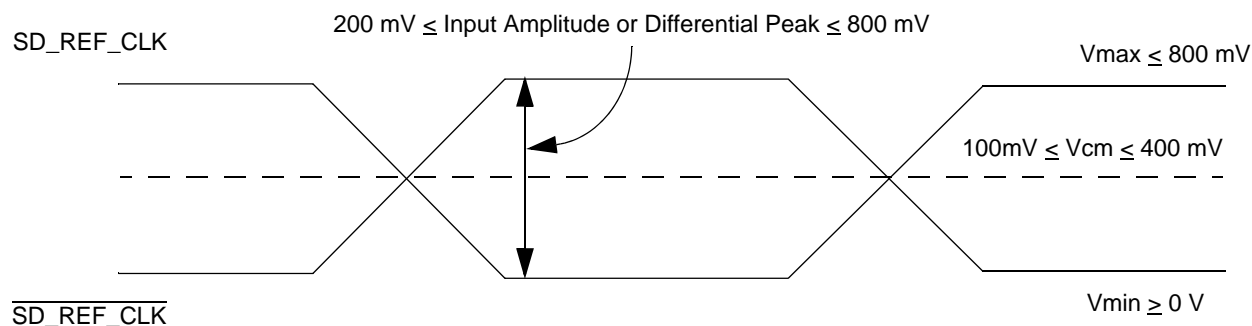

Figure 44. Differential Reference Clock Input DC Requirements (External DC-Coupled)
- For **external DC-coupled** connection, as described in Section 2.18.2.1, “SerDes Reference Clock Receiver Characteristics,” the maximum average current requirements sets the requirement for average voltage (common mode voltage) to be between 100 mV and 400 mV. Figure 44 shows the SerDes reference clock input requirement for DC-coupled connection scheme.